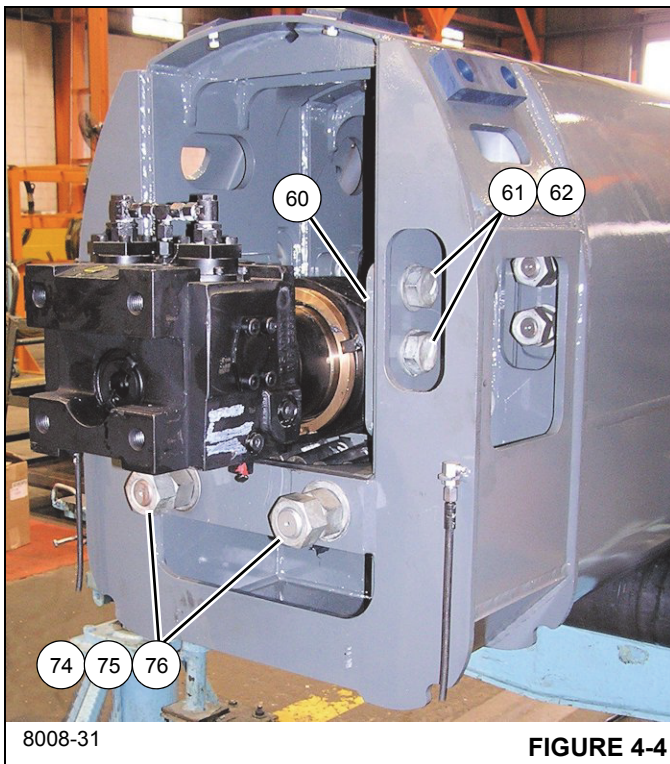
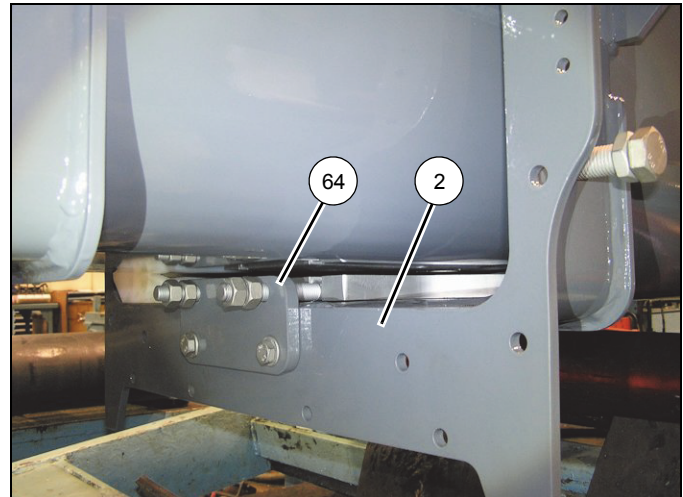

FIGURE 4-4
FIGURE 4-5
20. Remove the four nuts (75) and two flat washers (74) securing the two bolts (76), which pass through the anchor plate (73), to the rear of tele 1 (2) (see Figure 4-4).
21. Remove the five bolts (62) and flat washers (61) securing the trunnion plate (60) to the inside of tele 1 (2) (left and right sides) (see Figure 4-4).
22. Slightly extend tele 2 (3).
23. Using an adequate lift and sling, slightly raise the front of tele 2 (3) for the purpose of removing the wear pads from the front of tele 1 (2).
24. Remove the three bolts (19), six flat washers (16), three lock washers (17), and three nuts (18) securing the keeper plate (15) to the front of tele 1 (2) (left and right sides).
25. Remove the two bolts (27) and nuts (28) securing the upper wear pad (11) to the front of tele 1 (2) (left and right sides).
26. Remove the two bolts (69), four flat washers (67), and two nuts (18) securing the anchor plate (64) to the top of tele 1 (2) (see Figure 4-5).